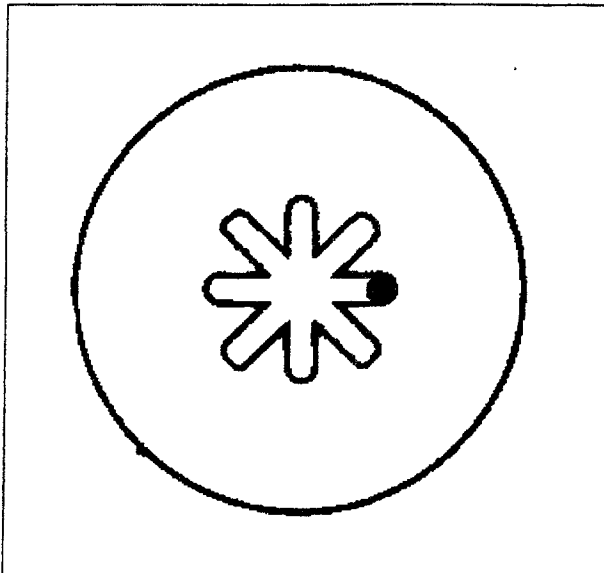

Fig.12
- D. Move the 8 position switch to the right (Fig.12) to move the toolholder carriage to the outside.